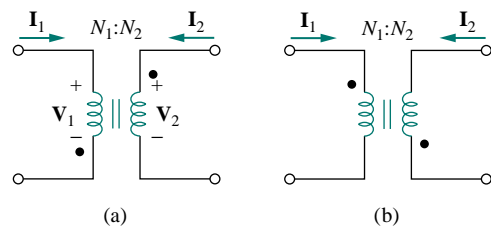

Figure 13.70 For Review Questions 13.5 and 13.6.
- 13.5** The ideal transformer in Fig. 13.70(a) has $N_2/N_1 = 10$. The ratio V_2/V_1 is:
- 13.6** For the ideal transformer in Fig. 13.70(b), $N_2/N_1 = 10$. The ratio I_2/I_1 is: